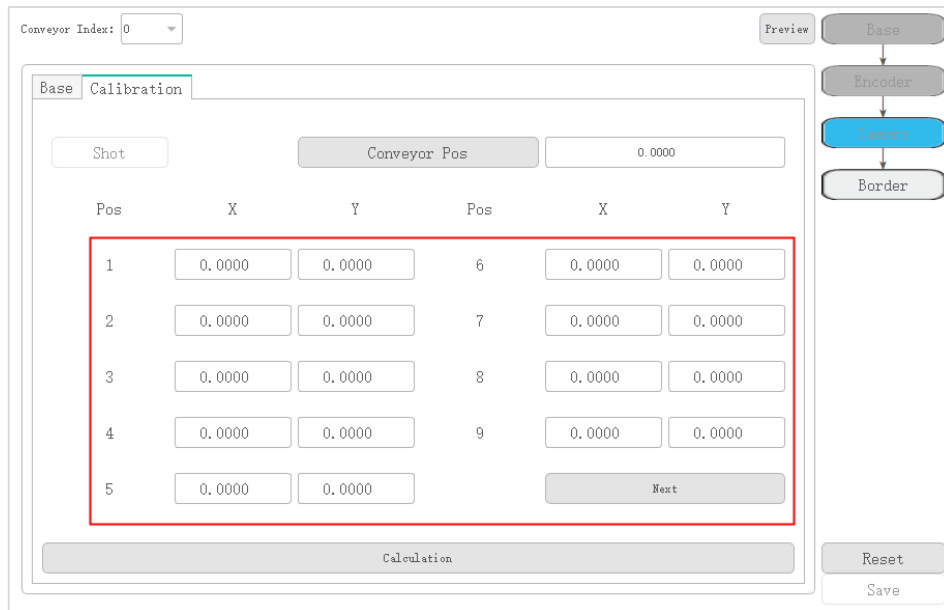

Figure 5.16 Get the image coordinates
4. Get the image coordinates of the nine points on the calibration board from the vision software after the vision system finds the calibration board and input them to the corresponding positions on the calibration page, as shown in Figure 5.16.